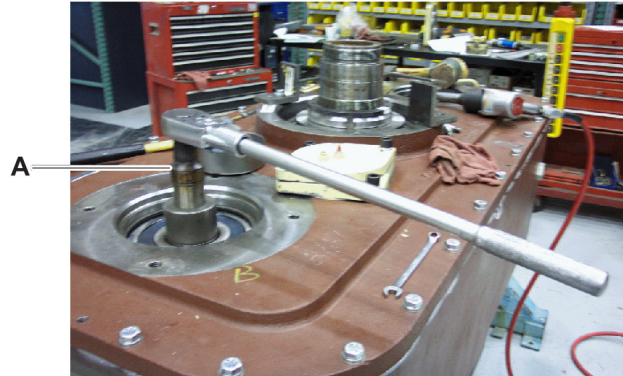

Figure 4
6. Before tightening the adjusting nut, put a mark on the nut and corresponding mark on the spindle. With a torque wrench attached and lock nut adjustment tool temporarily removed, insert the input pinion tool (Figure 4, item A) into the spline of the pinion shaft. Carefully measure and record the initial torque necessary to rotate the pinion counter-clockwise.